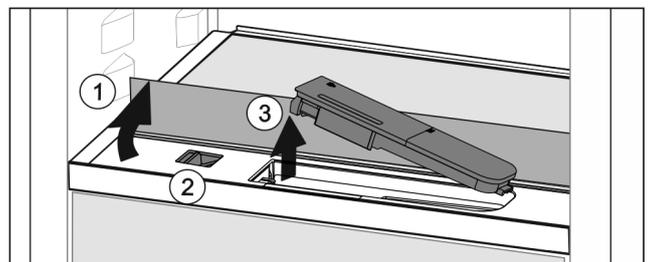

Fig. 45
- ▶ Lift the glass panel and fold towards the rear until it clicks into place Fig. 45 (1).
- ▶ Slide the slider Fig. 45 (2) to the left.
- ▶ Remove the water tank Fig. 45 (3).